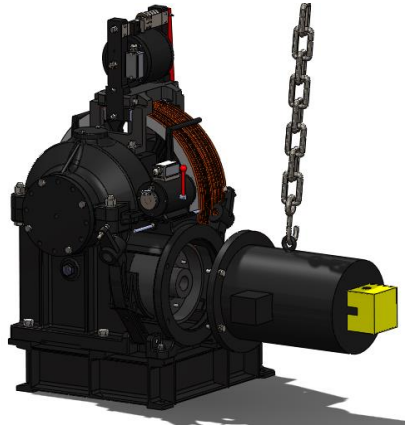

Figure 25 Motor Replacement
4. Install a hoist and rigging over the motor, and hoist the motor until pressure is applied to the rigging. See Figure 25.